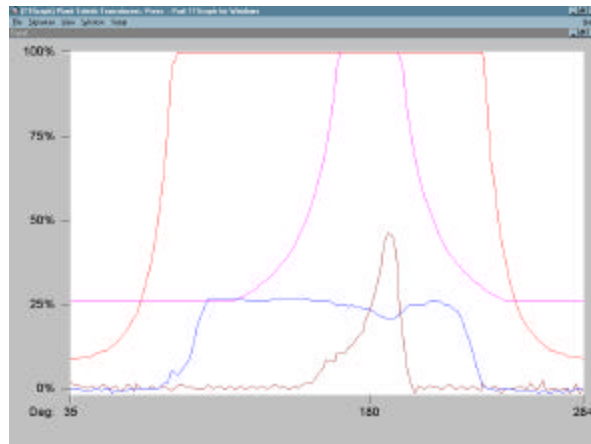

Figure 15: Signature in Outer and Inner view.
1. Choose View on the menu bar and then choose Outer and Inner to view both the Outer and Inner ram signature(s). (See Fig. 15).